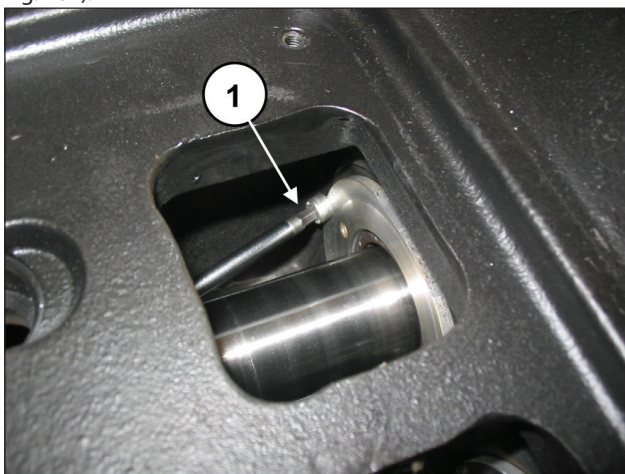

Fig. 162
Unscrew the two screws locking the oil seal cover (pos. ①, Fig. 162).